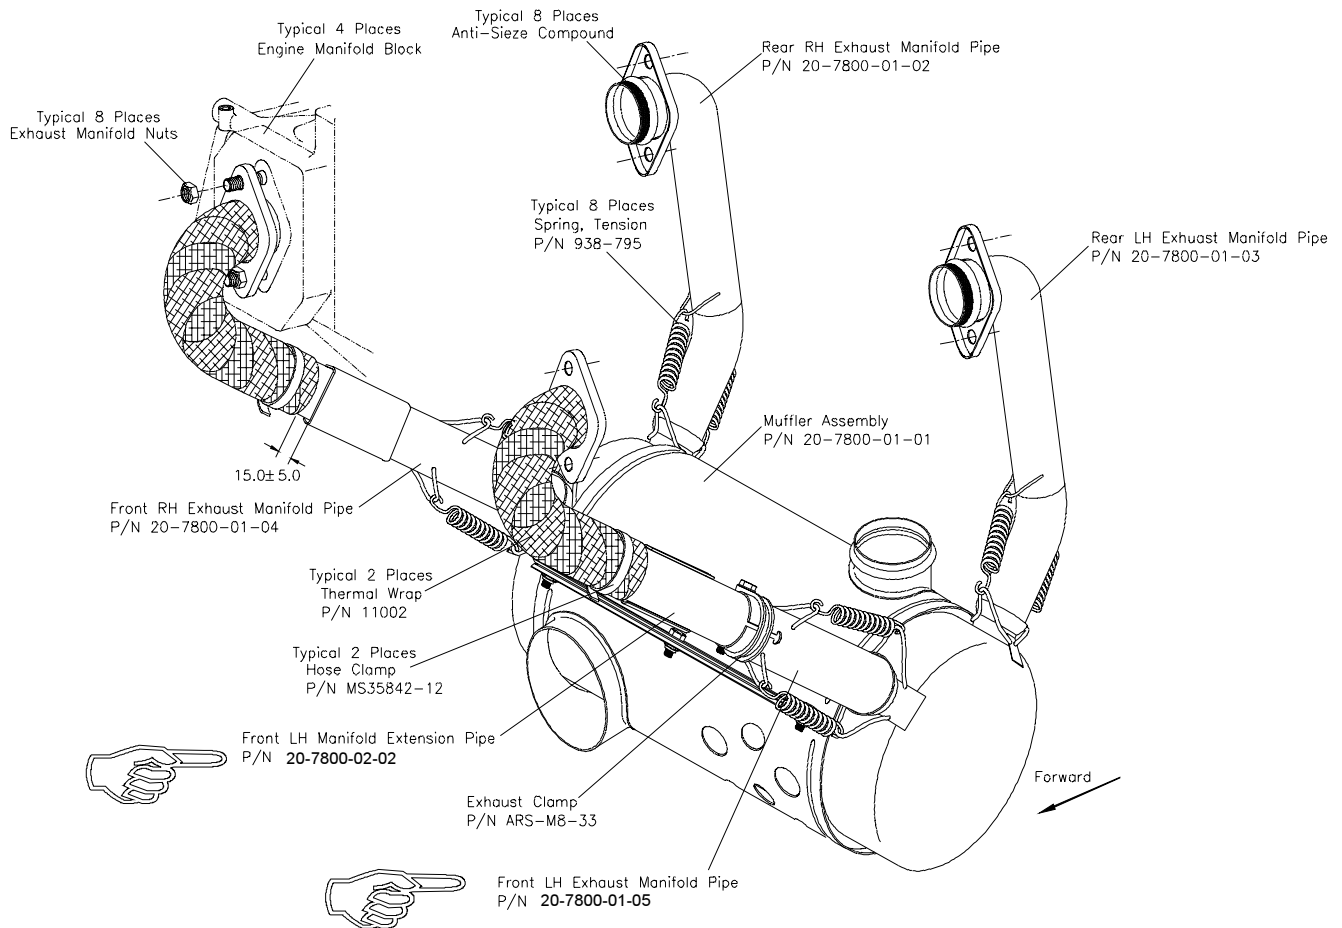

Figure 1.
- 10.2 Disconnect all ducting from the muffler shroud (Air Intake, Carb Heat, Heat Box). Unbolt the exhaust system from the engine, by removing the exhaust manifold nuts (ref. figure 1).
- 10.3 Use the tension springs (p/n 938-795) to attach the front RH exhaust manifold pipe (p/n 20-7800-01-04), the front LH exhaust manifold pipe (p/n 20-7800-02-02), and the rear RH and LH exhaust manifold pipes (p/n 20-7800-01-02 and 20-7800-01-03) to their respective positions on the muffler assembly (p/n 20-7800-01-01) (ref. figure 1).
- 10.4 Apply loctite anti-seize compound (p/n 76764) to all four (4) exhaust pipe ends, as indicated in figure 1. Bolt the above assembly (ref. paragraph 10.3) to the engine, and lightly tighten the exhaust manifold nuts as they are reinstalled.
- 10.8 Slide the exhaust clamp into position as shown in figure 1, and torque it down to 20 ft/lbs. Re-install all ducting connections to the muffler shroud (Air intake, Carb Heat and Heat Box).